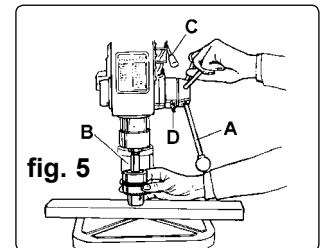

fig. 5
- 5.1.11. Insert arbor (fig.5 B) into drill spindle (reduced diameter end first), fit chuck to protruding end of arbor and hold in place.
- 5.1.12. Turn feed handle to bring nose of chuck down onto wood (fig.5). Firmly pull on feed handle to seat arbor tapers in spindle and chuck.
- 6.4.1. With the belt tension lock screws (fig.6.A) loose and using hand pressure on the adjusting handle (fig.5.C), set tension so that belt give is no more than 1/2" (13mm). Tighten lock screws.
- 6.6.2. Loosen locking screw (fig.5.D) and set the scale to the depth desired. Tighten locking screw.